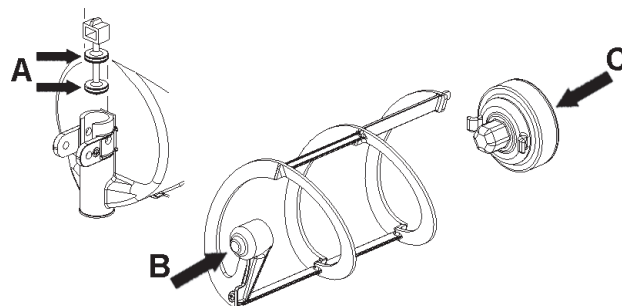

figure 12
- Lubricate faucet piston, outer spiral and outside magnetic rotor (see points A, B and C of figure 12) only with the grease supplied by the manufacturer or other food grade approved lubricant.